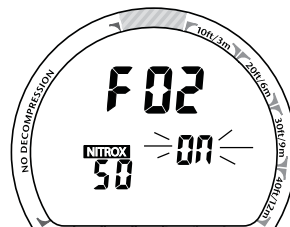

Fig. 16 - Set FO2 Default
- While viewing the Set 1 screen, press/release the A (left) button 3 times (< 2 sec each time), the Set FO2 Default screen appears with the Set Point flashing (Fig. 16).